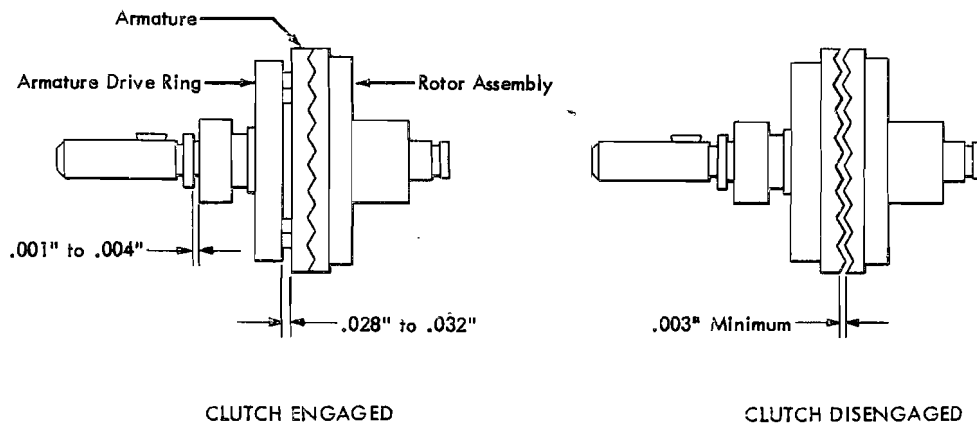

Figure 37. Tooth-Style Ribbon Clutch
6. Tooth-style clutch adjustment (Figure 37):